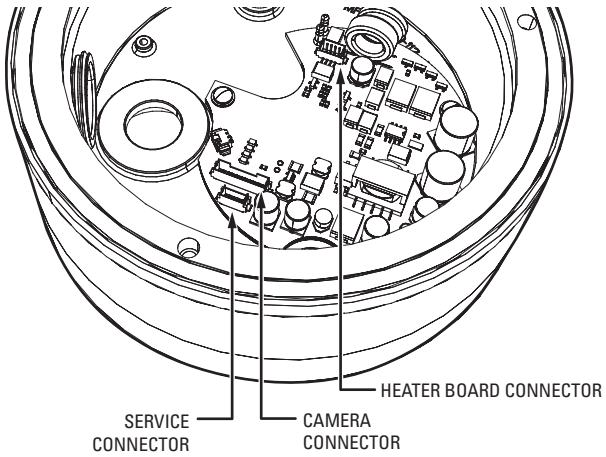

Figure 7. Back Box Connectors
2. Unplug the camera (10-pin), heater board (four-pin), and service (three-pin) connectors from the back box (refer to Figure 7).
1. Plug the camera (10-pin), heater board (four-pin), and service (three-pin) connectors into the back box (refer to Figure 7 on page 15).